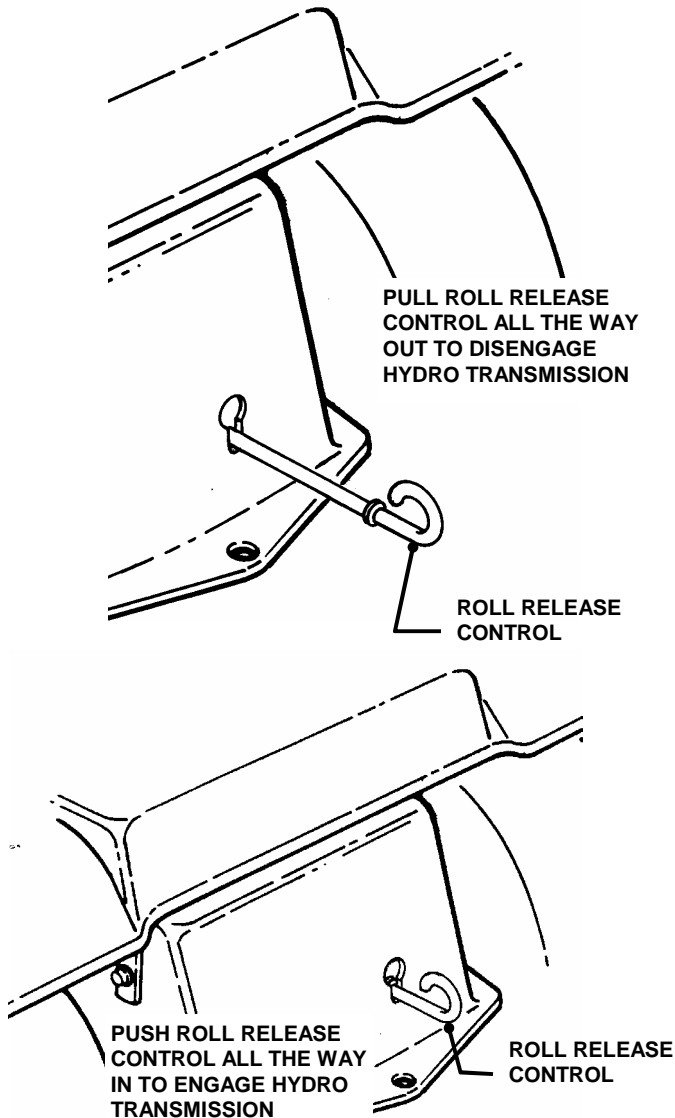

FIGURE 2.15
2. Pull the roll release control all the way out to disengage the hydro transmission. See Figure 2.15.
5. Push roll release control all the way in to engage hydro transmission. See Figure 2.15.